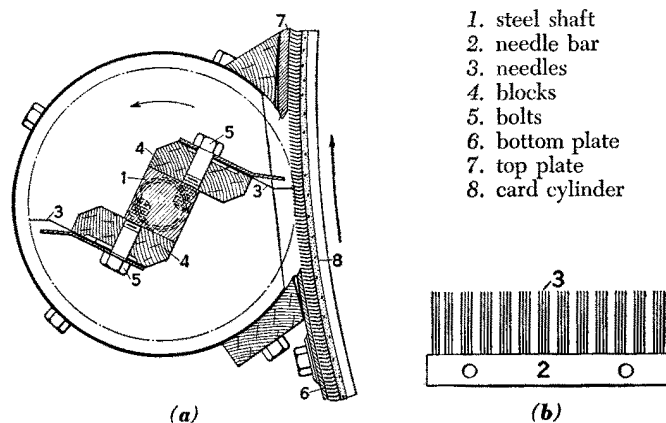

FIG. 23. ROTOR AND NEEDLE BAR
The rotor, shown in the section in Fig. 23 (*a*), is built around a  $1\frac{1}{2}$ -in. square steel shaft. The shaft has cylindrical ends which turn in roller bearings. Two lines of needle bars are attached to the square steel shaft. A side view of such a bar is given in view (*b*). The needle bars are mounted on wooden blocks which extend the length of the steel shaft. Bolts pass through the blocks, holding them to the shaft. The long, thin, flexible needles are mounted in groups of four. A group of three needle bars is bolted to each side of the shaft in such a manner as to stagger the needles; that is, the needle bars are so placed on the shaft that the needles on one side of
**65.** Several changes must be made on a cotton card before a continuous stripper may be attached. The chain must be shortened by about six flats to make room for the stripping unit at the back of the card above the lickerin. A new back knife plate, made in two sections, is required. The bottom plate, Fig. 23, is bolted in place above the lickerin housing; keep a clearance of about 0.058 in. between the cylinder wire and the plate. A narrow top knife plate is bolted in place under the flats. Keep a clearance of about 0.058 in. between the lower edge of the plate and the cylinder wire, and a clearance of about 0.034 in. between the top of the plate and the cylinder wire. The stripper casing is bolted in place between the two plates in such a manner that the needles are in contact with the card wire for a distance of about  $1\frac{1}{4}$  in. This setting